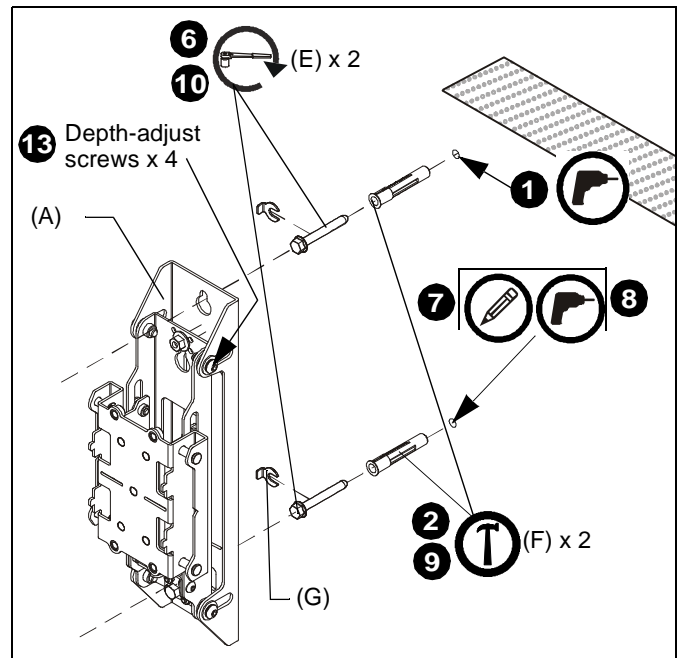

Figure 8
1. Drill one 3/8" x 3-1/2" (9.5mm x 88.9mm) pilot hole at each marking. (See Figure 8)
2. Install one anchor (F) into each pilot hole using a hammer, making sure that the anchor is flush with the wall.
3. Partially install one 5/16 x 2-3/4" flanged lag bolt (E) into pilot hole but do not tighten to wall.
4. Hang outside wall upright (A) [or center wall upright (B)] aligning upper mounting slot over lag bolt and level upright.
5. Place one slotted washer (G) over each flanged lag bolt. (See Figure 8)
7. Mark the attachment point for the lower mounting slot. (See Figure 8)
8. Drill 3/8" x 3-1/2" (9.5mm x 88.9mm) pilot holes at marking for lower mounting hole. (See Figure 8)
9. Install an anchor (F) into each pilot hole using a hammer, making sure that the anchor is flush with the wall.
10. Use one 5/16 x 2-3/4" flanged lag bolt (E) and one 5/16" slotted washer (G) to attach the wall upright to the wall through the lower mounting hole. (See Figure 8)